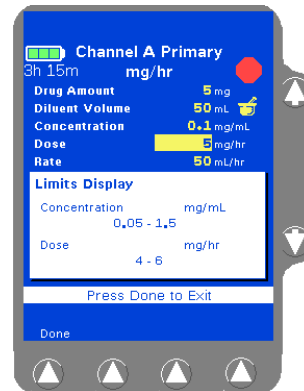

Figure 11 View Limits Pop-up
5. (Optional) To view the limits for the label, press the **View Limits** soft key. The Limits Display pop-up displays the preconfigured range limits for rate, dose, or concentration, whichever is appropriate for that label (Figure 11). Press the **Done** soft key to close the pop-up.